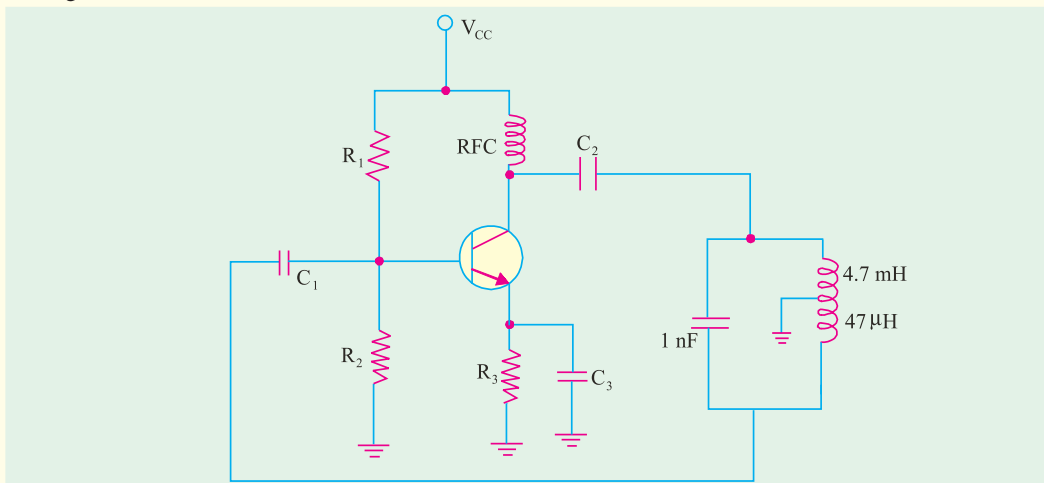

Fig. 65.37
4. For the transistor Hartley oscillator circuit shown in Fig. 65.37, find the frequency of operation. Neglect the mutual inductance between the coils. **(73.1 kHz)**